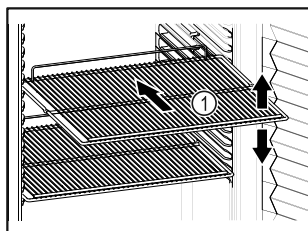

Fig. 30 Example illustration
- If there are adjustable shelves Fig. 30 (1), position them as required.